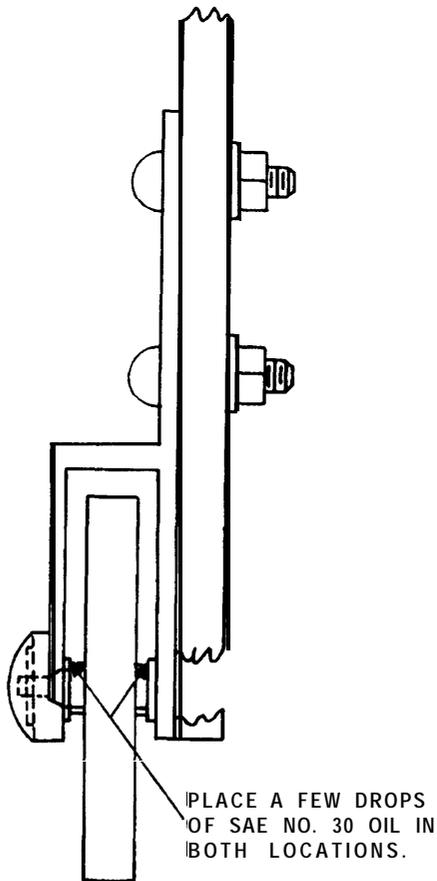

Figure 1. Lubrication of the Old Type Metal Wheel.
4.05 To oil the old type metal wheels, without grease cups, use the oil can and place a few drops of the SAE No. 30 oil on each end of the axle. Place the oil between the mounting fixture and the wheel. Refer to Figure 1. Avoid excess oiling of the wheels. If excess oil is applied it may drip on the floor or on the tires.